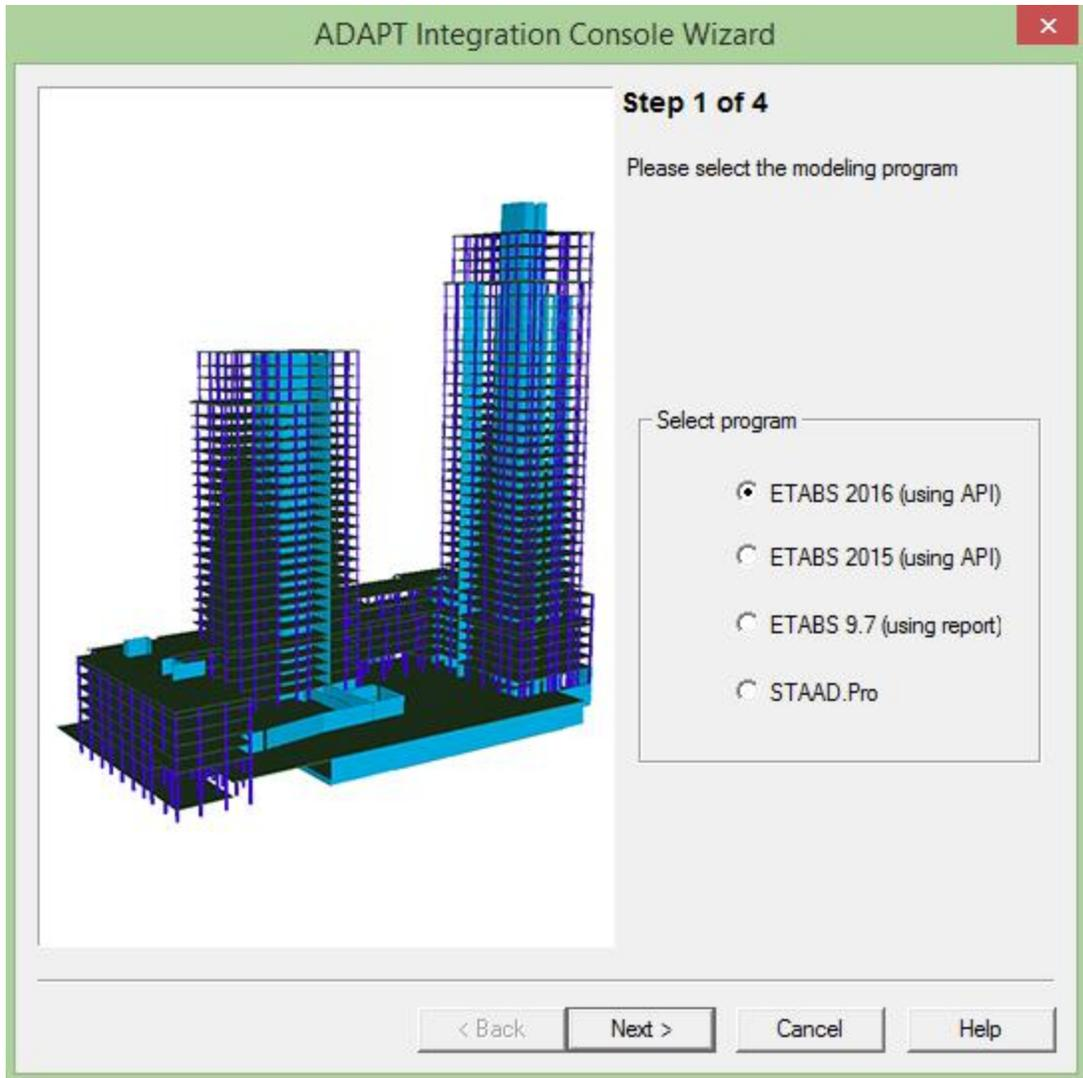

Figure 6 ADAPT Integration Console Wizard
- Open **ADAPT-Integration Console v6**. Ensure that the **ETABS 2016 (using API)** option is checked in the *Select Program* section (FIGURE 6). Select *Next*.